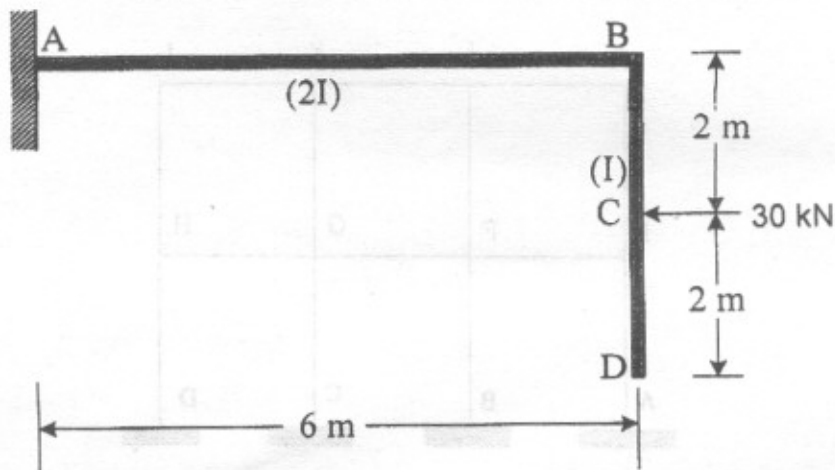

Fig. 2(b)
- (b) Determine the horizontal deflection at point D for the frame as shown in Fig. 2(b), by Castigliano's first theorem. [6]